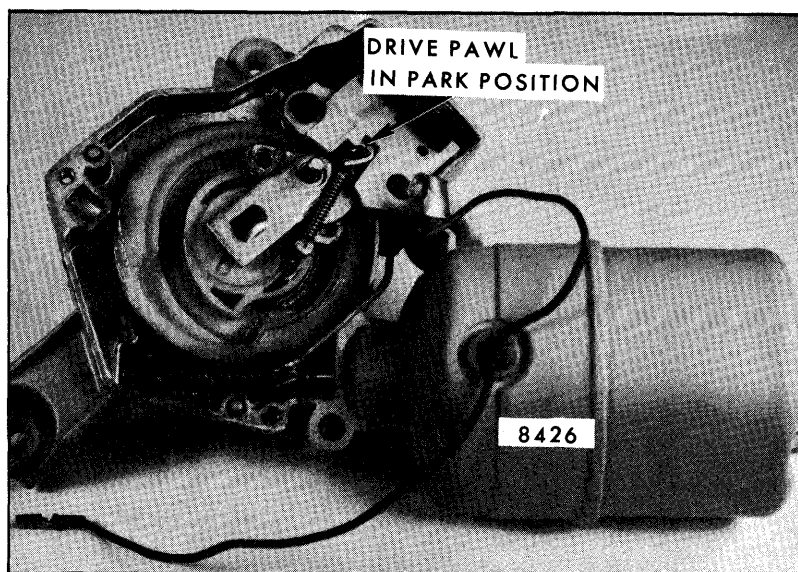
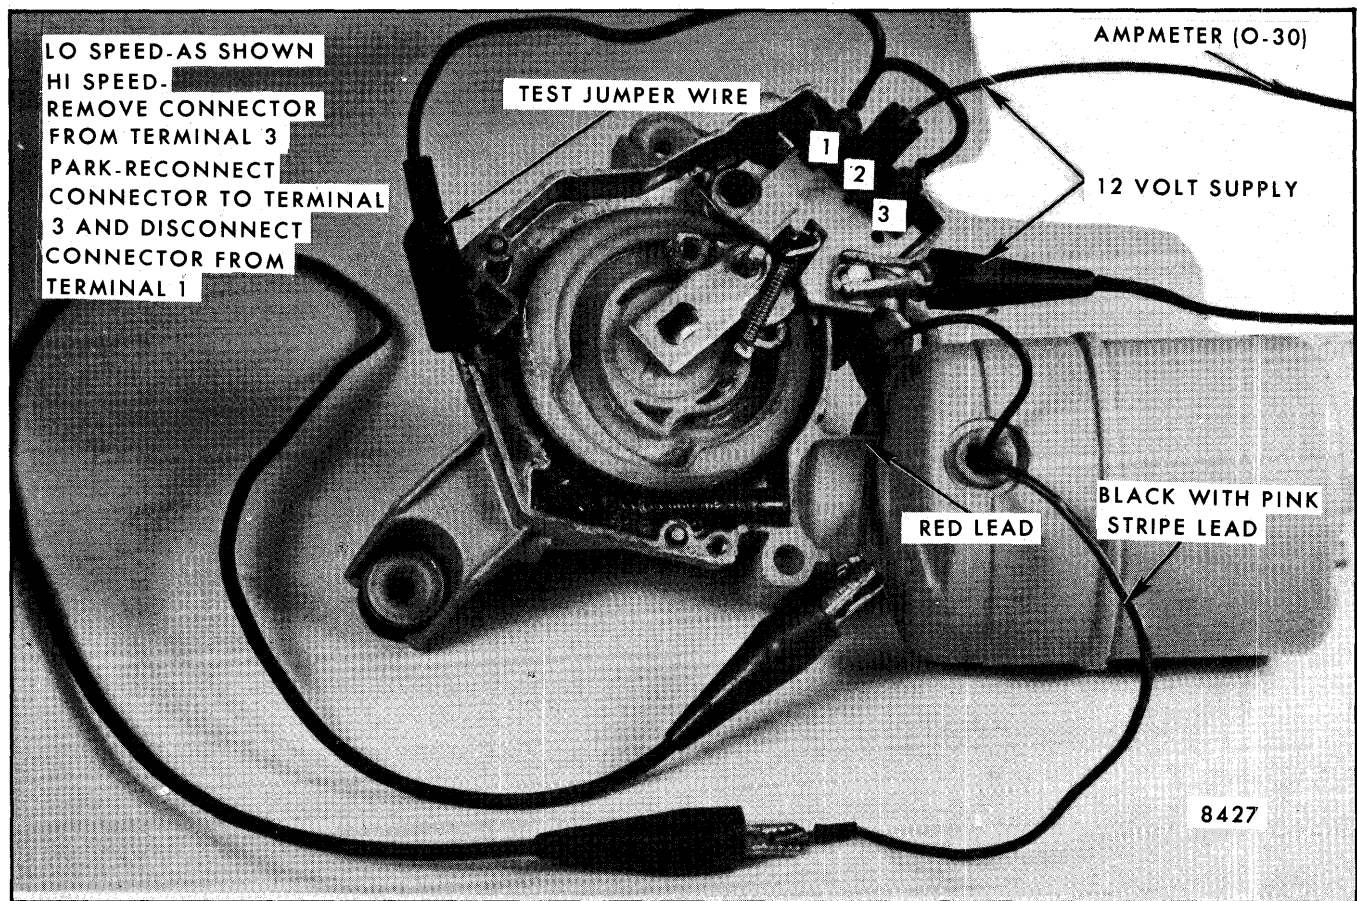
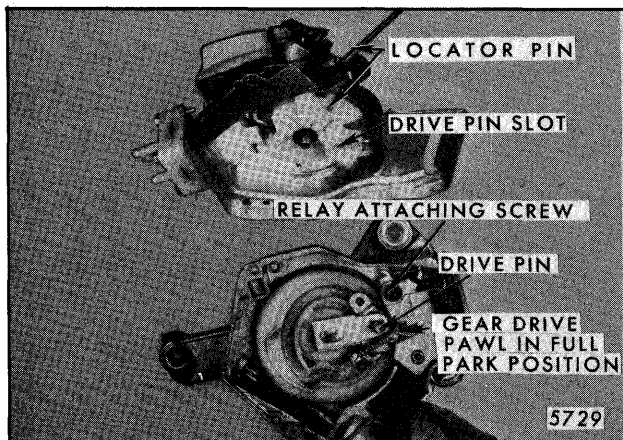
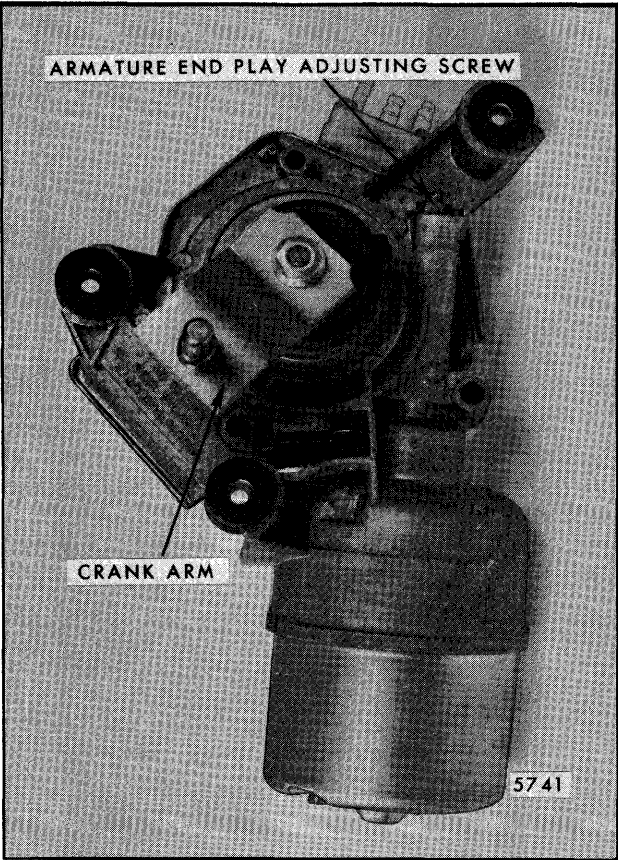

Fig. 2-11-Drive Pawl in "Park"
Fig. 2-37-Modified Pulse Motor Bench Operation Test
Fig. 2-40-Installing Pump to Motor
Fig. 2-46-Crank Arm in Park Position
1. It causes the gear assembly drive pawl to push the relay latch arm into the relay housing (Fig. 2-11) which, in turn, opens the relay switch contacts. This opens the B plus circuit to the pulse relay coil. The pulse relay contacts then open which shuts off the B plus feed to the motor.
2. If wiper gear drive pawl is in full park position (Fig. 2-11), operate the motor as required to move pawl out of relay slot (Fig. 2-37).
6. Refer to Figure 2-37 and operate wiper to park position, then reinstall washer pump. Refer to reassembly of washer to wiper gearbox (Fig. 2-40).
7. Refer to Figure 2-37 and operate wiper to park position; then, position crank arm on output shaft flat so that it points in the direction shown in Figure 2-46. Next, install crank arm retaining nut finger-tight.